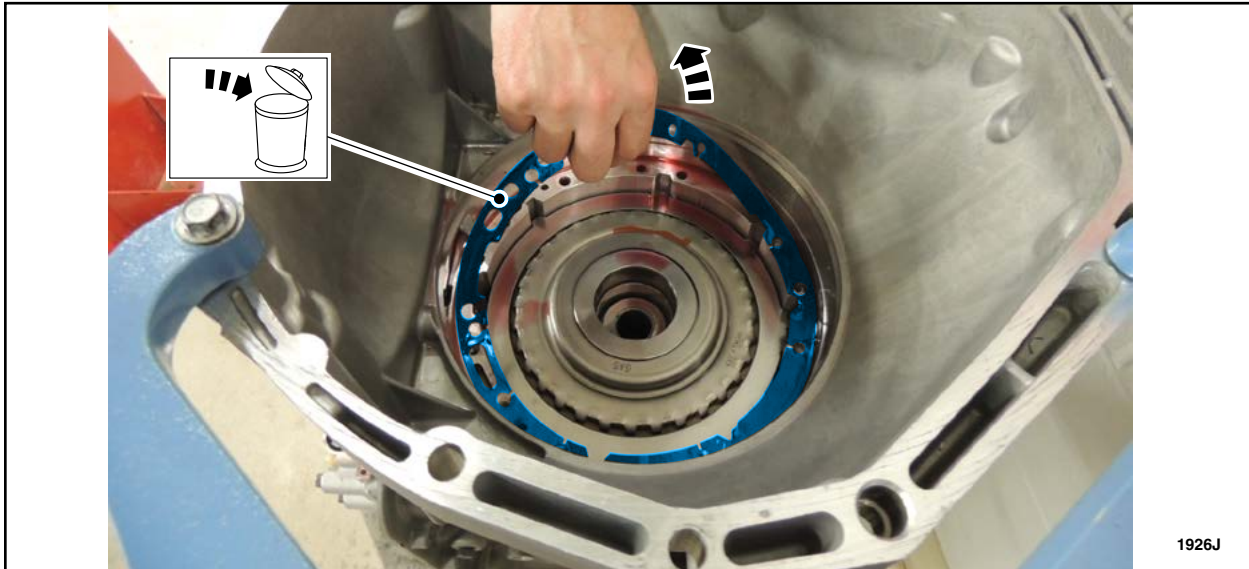

FIGURE 9
10. Remove and discard the front pump gasket. See Figure 9.